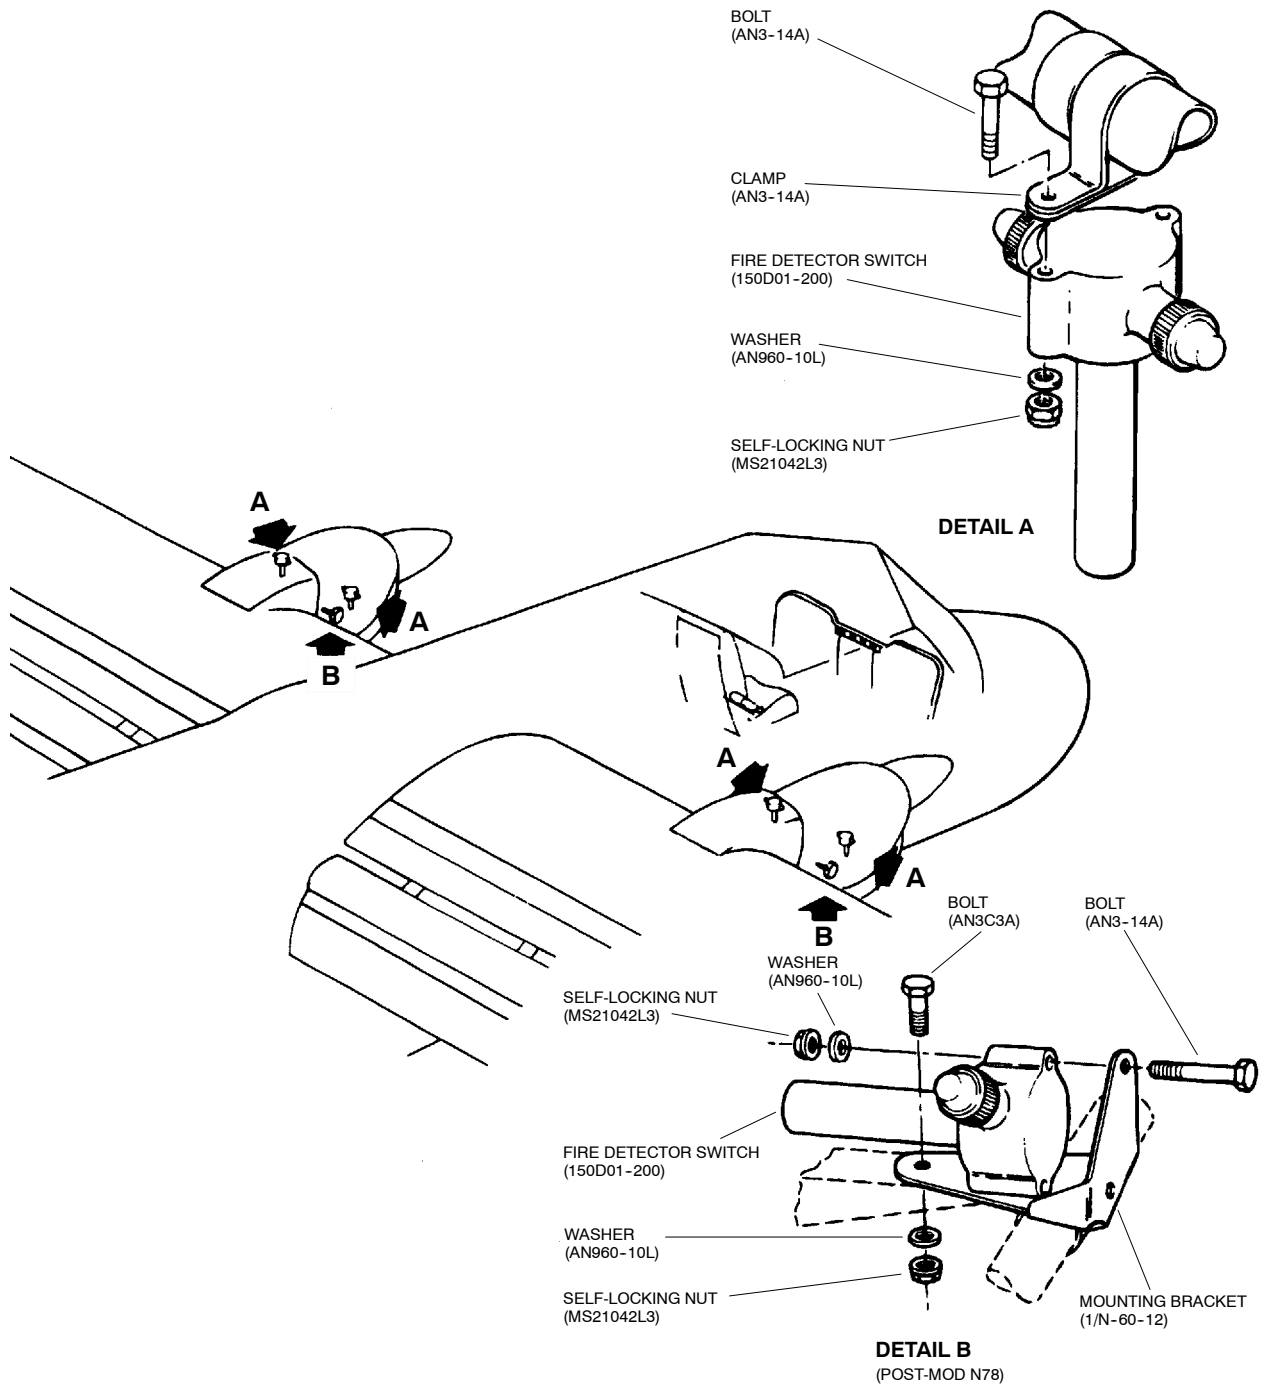

Figure 1 Details of Fire Detector Mountings
- (4) Remove Lower Front Fairing (Ref MM Chap 71-10-00, Para 1.G.).
- (5) Locate (Ref Fig 1) and remove Fire Detector Switches from the mounted positions (Ref MM Chap 26-10-00, Para 1.E.). Remove and discard earth wire from each switch.